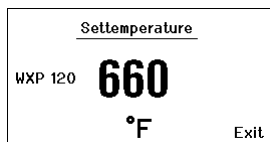

Fig. 7
1. Press and hold down the required selection key **6** or **13** for 3 sec. The display changes over to the set-point temperature (see Fig. 7).